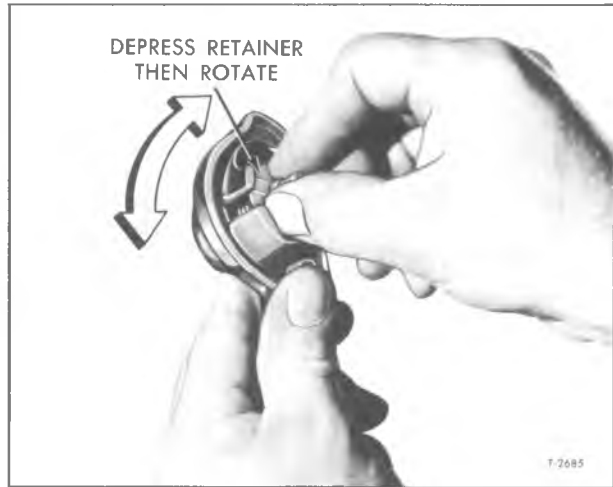

Figure 12—Disengaging Handle Spring Retainer
3. Remove the button shaft retainer by first depressing, then rotating retainer as shown in figure 12. Remove shaft spring and button assembly with O-ring seal from handle (fig. 13).
2. Locate spring over button shaft, then install spring retainer (fig. 12).